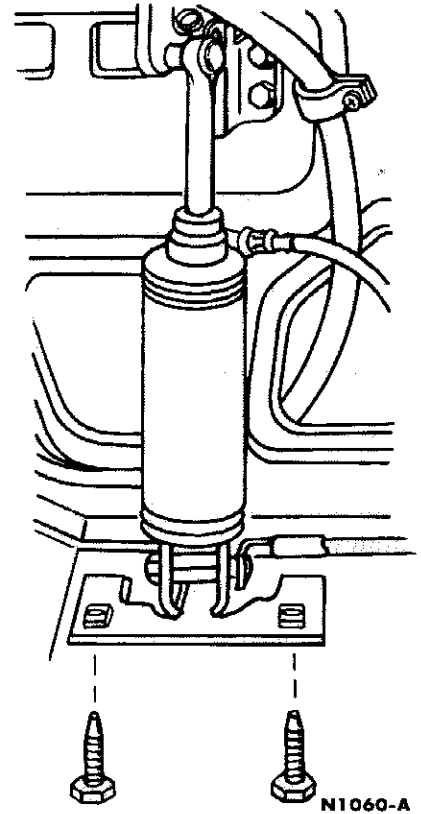

FIG. 16—Deck Cylinder Retaining Screws
3. From underneath the lower back panel, remove both of the deck cylinder retaining screws from each side (Fig. 16).